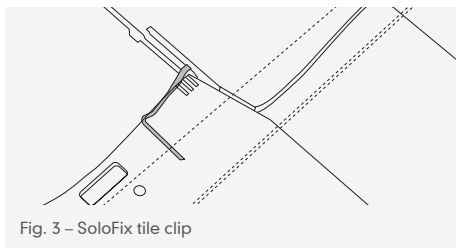

Fig. 3 – SoloFix tile clip
- 2 Tiles requiring once clipping should be fixed using a one piece SoloFix tile clip, located on the left hand side of the tile where a clip fixing channel is present (Fig. 3).